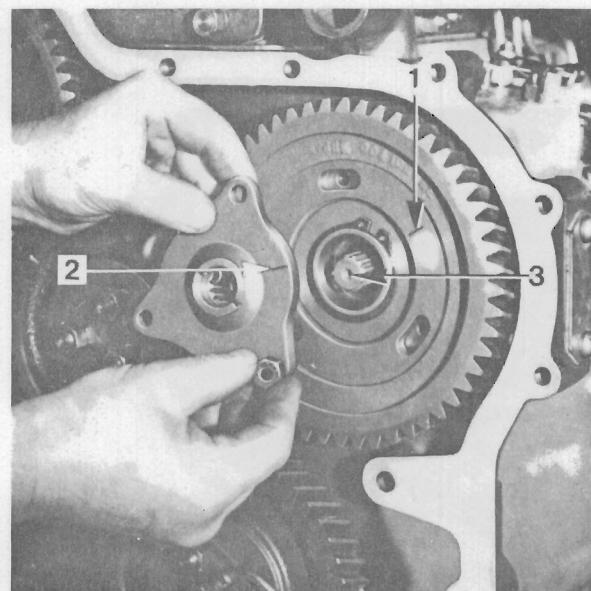
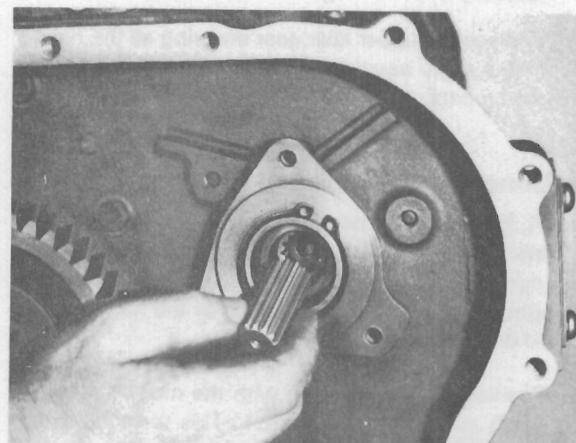

Fig. J.2.
Fig. J.6.
By removing the inspection cover, to which the engine breather pipe is attached, access can be gained to the fuel pump drive gear to allow adjustment to the fuel pump timing. This is provided for by slotted holes in the fuel pump gear, Fig. J.2 allowing movement between it and the gear adaptor, once the securing setscrews are slackened. On D4.203 engines the fuel pump gear is fixed in position by a dowel and no adjustment is possible. All the timing gears are suitably marked. These marks must be aligned when No. 1 piston is at top dead centre on its compression stroke. (See Fig. K.1). It will be appreciated that these timing marks will not align at every rotation of the crankshaft when No. 1 piston is at top dead centre on compression.
3. Remove the driving gear adaptor leaving the splined quill shaft in the fuel pump (See Fig. J.2). A circlip which retains the fuel injection pump quill shaft in position is located in the front of the adaptor. Fig. J.6 shows the removal of the quill shaft.
4. Check the fuel pump timing by one of the two methods given in Section K and accurately position the adaptor on the gear. Mark the front face of the gear in line with the adaptor mark (see Fig. J.2).
3. Check the fuel pump timing by one of the two methods given in Section K and accurately position the adaptor on the gear. Where necessary, remark the front face of the gear in line with the adaptor mark (see Fig. J.2) after defacing the original mark.